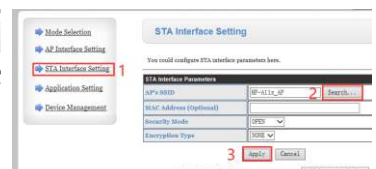

Figure11
2. Click Search on the STA Interface Setting to search the network as shown in Figure 11: